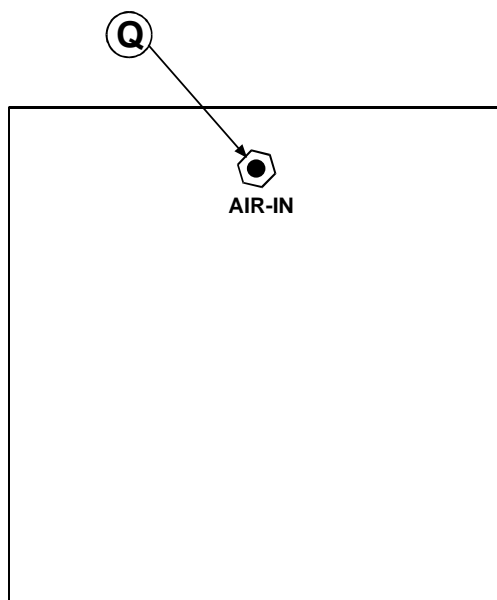

Figure 1 IDS/PI-400 Back Panel AIR IN Port
2. Connect shop air to the AIR-IN PORT **(Q)** (*Fig. 1*) located on the back of the IDS/PI-400. The supply minimum requirements are 2.5 CMF and 80 PSI.